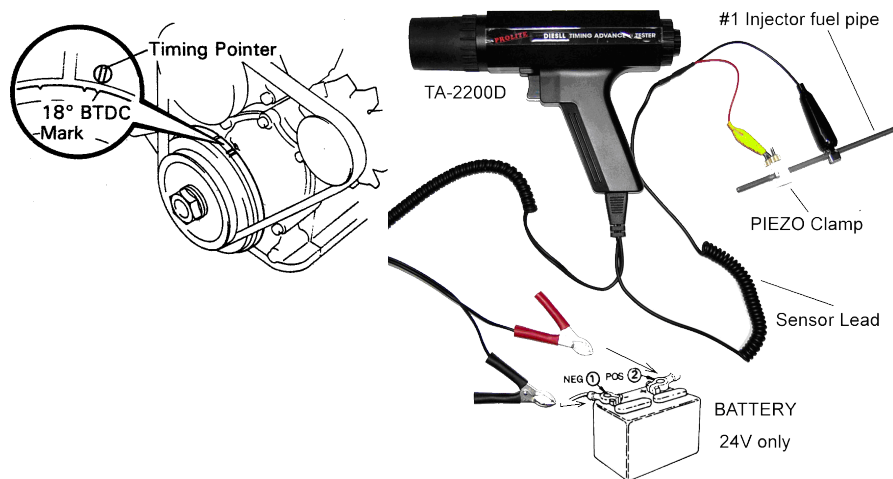

Figure 2
1. Locate engine timing mark (see figure 2) and use a rag to clean all grease and dirt from the mark and the pointer. It may help to use chalk or white paint on the marks to make them more easily seen.
6. Clamp the Piezo Clamp on a straight section of #1 Injector fuel pipe (see figure 2) as close to the pump as possible (there is less noise on the pump side to interference with the pulse), and away from engine for not acquiring incorrect signal. Piezo Clamp and fuel pipe should be clean and dry. Make sure the fuel pipe is straight and is in contact with the Piezo Clamp but **do not overtighten**. Overtightening may cause damage on sensor element.
7. Connect Sensor Lead clips YELLOW to one Adjustable Nut and BLACK to #1 Injector fuel pipe. (See Figure 2)
8. Connect the Power Lead clips RED to positive and BLACK to negative of the vehicle battery. Then connect the Main cable with Timing Light. (See Figure 2)
9. Start engine and operate an normal idle speed. Aim the timing light to timing mark as Figure 2.